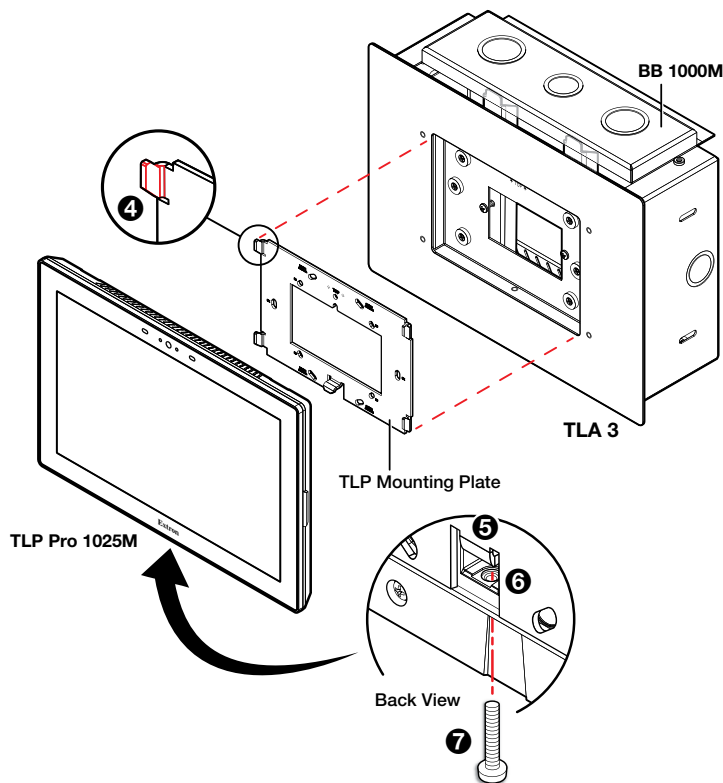

Figure 4. Mounting a Touchpanel to the TLA 3
1. The touchpanel mounting plate has four hooks (see figure 4, **4**), one on each corner. Position the touchpanel so that these hooks fit into the four slots on the rear panel of the touchpanel (see the *TLP Pro 525, 725, and 1025 Series User Guide*).